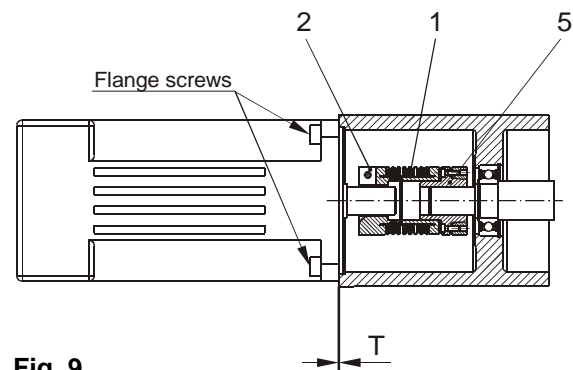

Fig. 9
6. Produce the torque-transmitting connection between the drive units by carefully plugging the coupling halves together, and finish installing the unit. If possible, ensure again that the required axial pre-tension of 0,5 to 1,0 mm is produced on the coupling. Depending on the installation situation, this can be checked e.g. at gap "T" between the flange surfaces before the flange screws are tightened (Fig. 9).